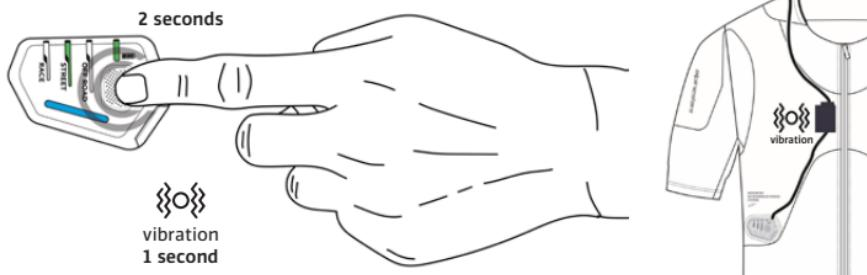

Figure 10: Press the Display Button (3a) for 2 Seconds to Change the Riding Mode.
As previously stated, the System offers three possible Riding Modes: Street Mode, Race Mode and Off-Road Mode. After the System has been correctly switched on, the User can easily switch between the three different Riding Modes by pressing the Display Button (3a) for 2 seconds (Figure 10). A SOLID GREEN LED will appear on the Riding Mode LED (3c) indicating the Riding Mode that is currently running on the System. A short vibration of approximately (~1 second) will also be felt in the vicinity of the Activation Zip (2) indicating the change of the Riding Mode.